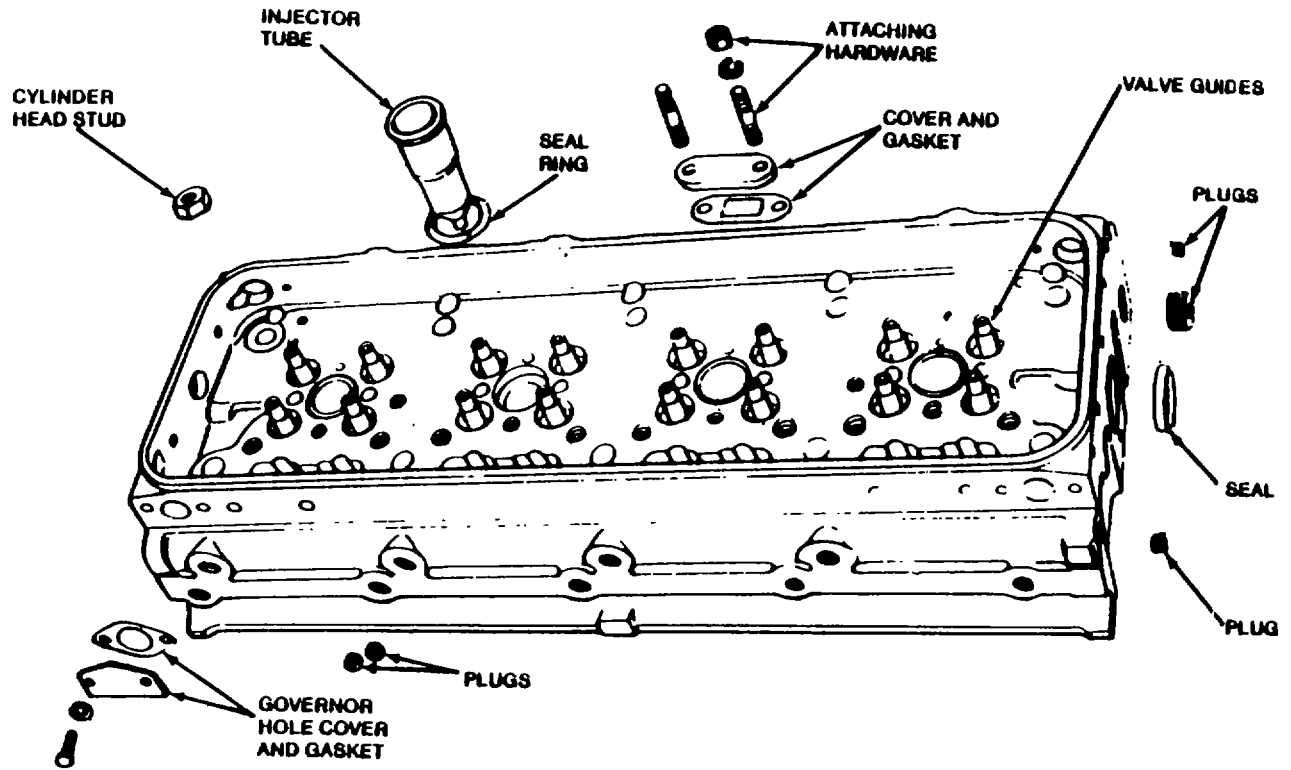

Figure 5-30. Cylinder Head Plugs and Studs.
- d. Refer to Figure 5-30 and install new seal rings in counterbores of water and oil holes and a new seal in milled groove near outer edge of area covered by cylinder head.